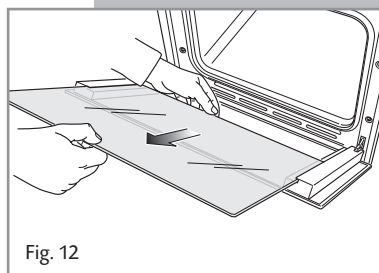

Fig. 12
- Gently pull out the inner pane of glass (Fig. 12).